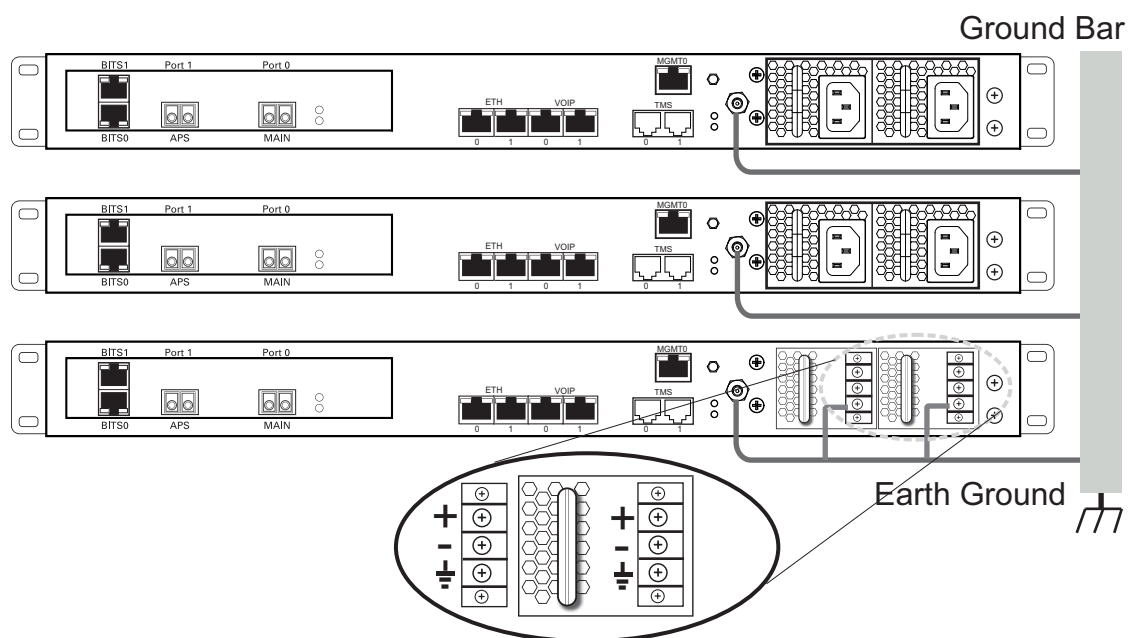

Figure 2.16 Chassis Ground Connection
1. Connect one end of a ground wire to the ground lug of the 3200 series gateway. See Figure 2.16 on page 36.